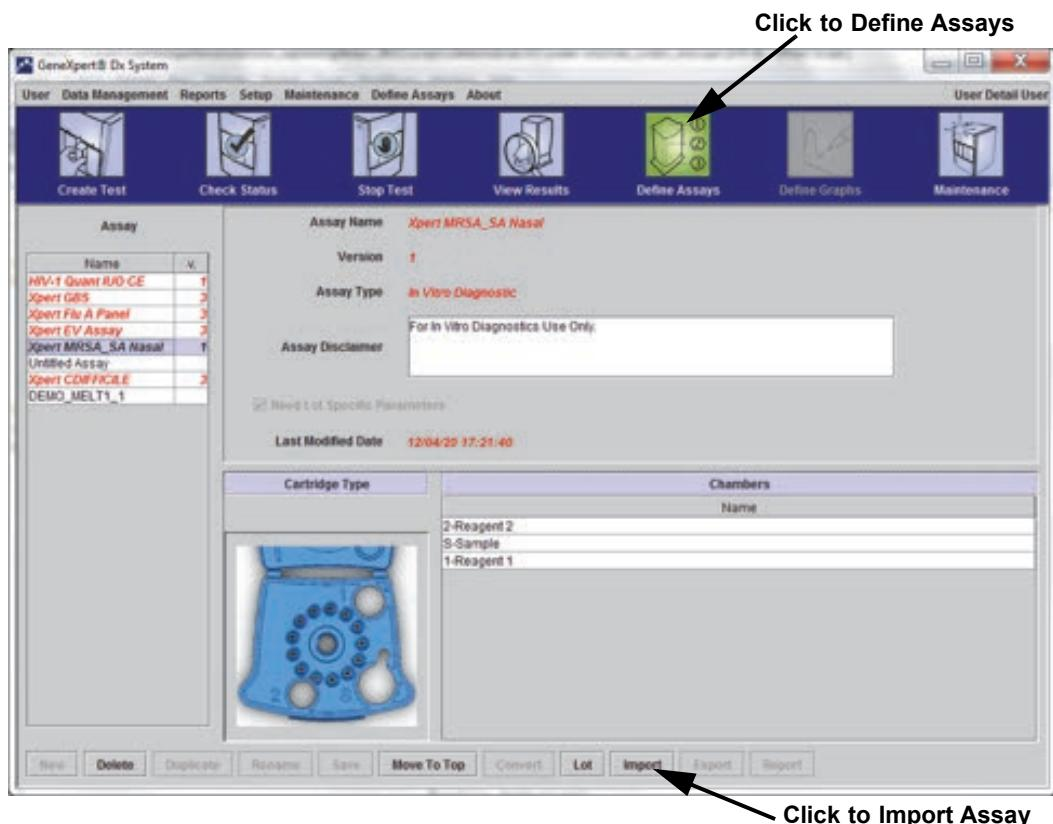
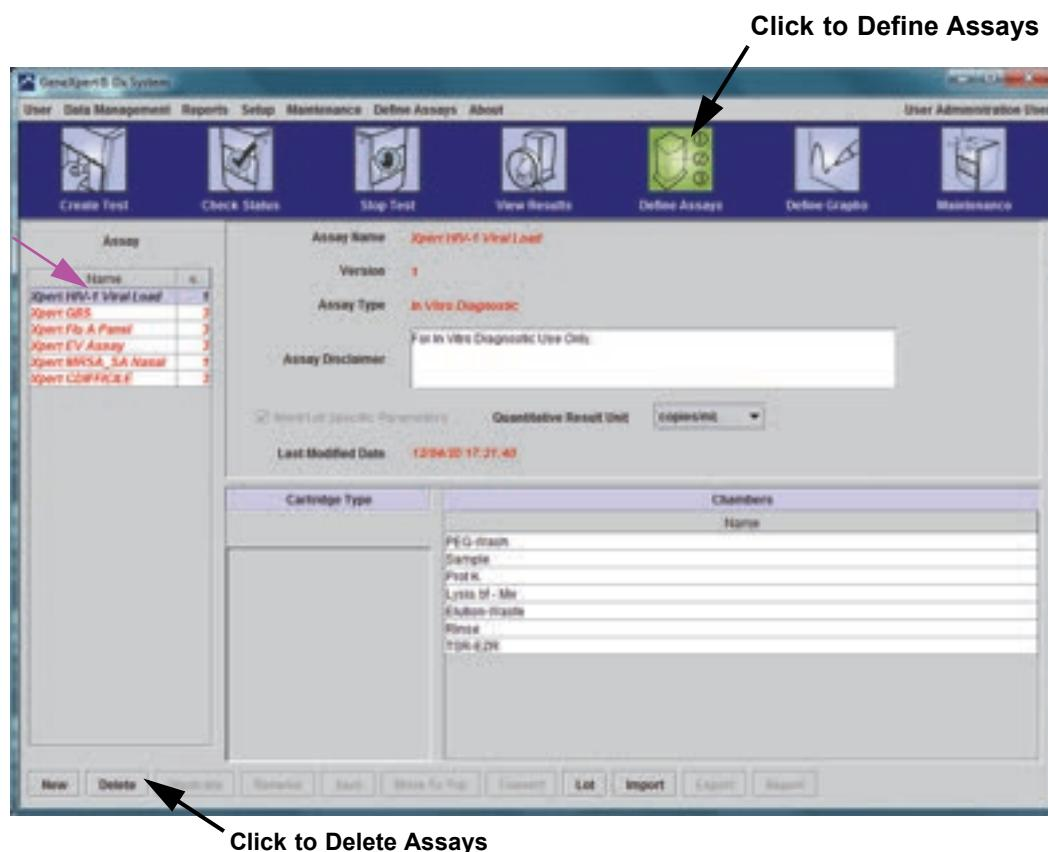

Figure 2-91. System—Define Assays Window (Detail User View)
Figure 2-93. GeneXpert Dx System—Define Assays Window (Administrator User View)
1. In the GeneXpert Dx System window, click **Define Assays** on the menu bar. The Define Assays window appears. Figure 2-93 shows the Define Assay window for the GeneXpert Dx system administrator. The window for Detail and Basic users has fewer functions (see Figure 2-91).
4. Navigate to the GeneXpert Systems folder. Locate and select the assay definition (.gxa/.nxa) file, and then click **Import**. The new assay name and version number appear in the Assay list (on the left side of the window) and details about the assay appear to the right of the list. See Figure 2-91.
Note After importing a quantitative assay, the Quantitative Result Unit can be changed. See Figure 2-93.
1. To delete an assay definition file, in the Define Assays window (see Figure 2-93), select the assay name in the Assay list (on the left side of the window), and then click **Delete**. A confirmation message appears.